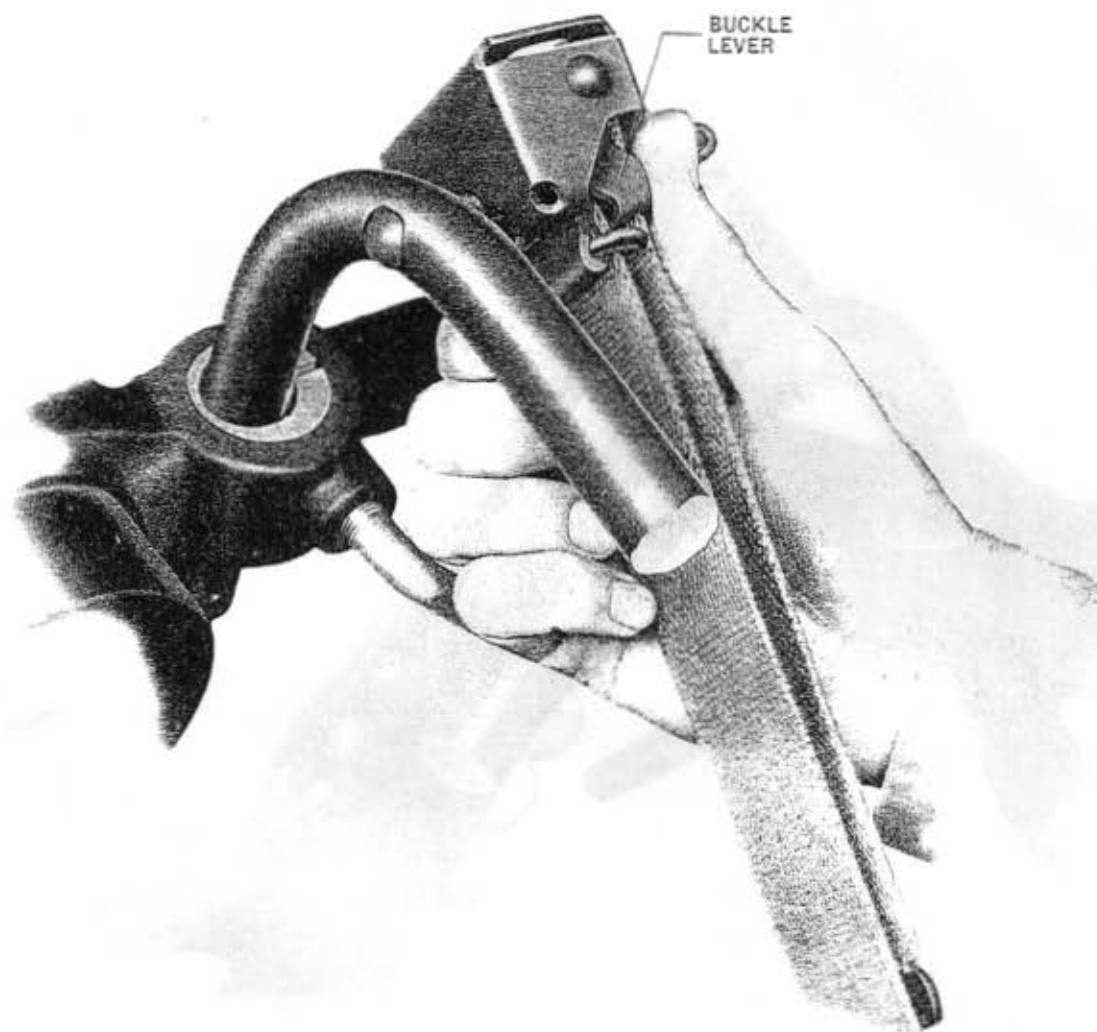

Figure 75—Press lever inward to release
2. Release buckle by pressing lever inward as shown in Figure 75.